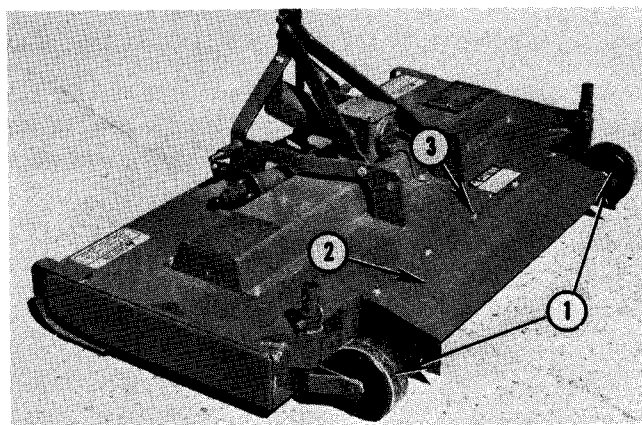

Fig. 55 — Gauge Wheels and Deflector Chute
1. Install gauge wheels and deflector chute as shown in Fig. 55 with chute bolt heads down.